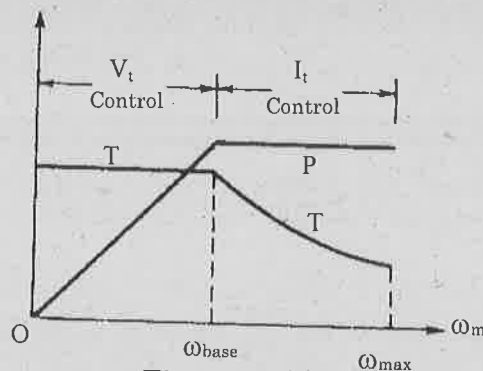

Figure 15 (a)
15. (a) A variable-speed drive system uses a DC motor that is supplied from a variable-voltage source. The torque and power profiles are shown in Figure 15 (a). The drive speed is varied from 0 to 1500 rpm (base speed) by varying the terminal voltage from 0 to 500 V with the field current maintained constant.
- (i) Determine the motor armature current if the torque is held constant at 300 Nm up to the base speed. (6)